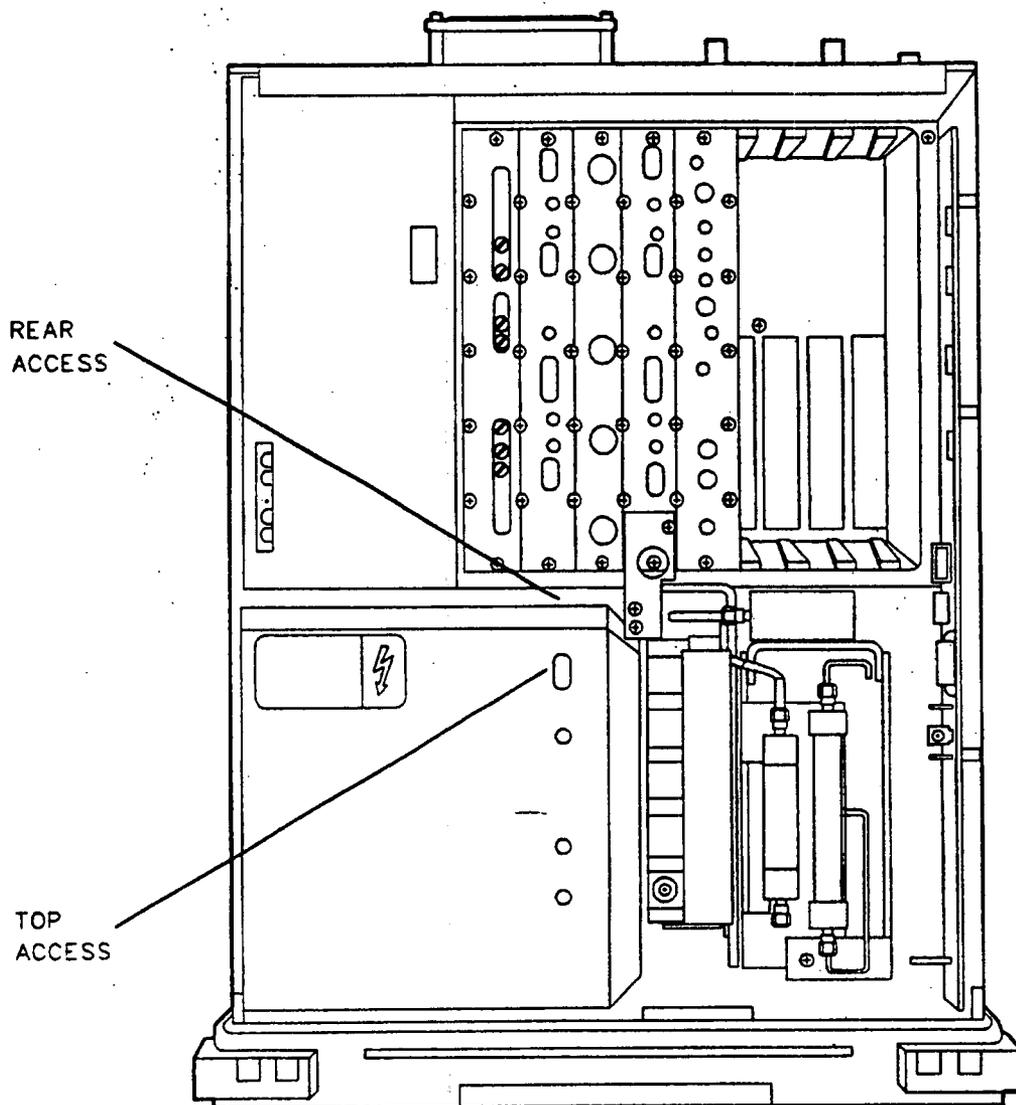
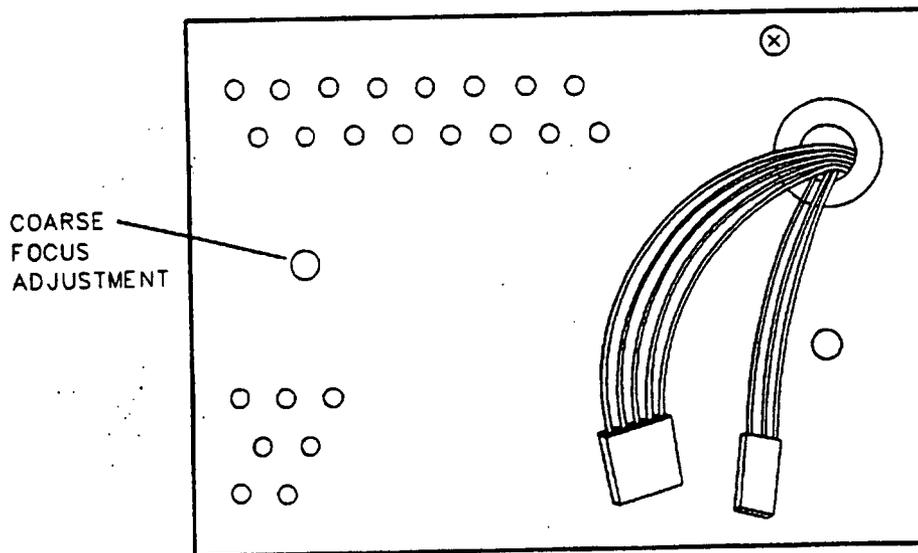

Figure 2-4. Coarse Focus Adjustment Location
Figure 2-5. Coarse Focus Adjustment Location (Rear View of Display Assembly)
1. Bend an adjustment tool at a 90° angle. Looking at the top of the spectrum analyzer, locate the coarse focus adjustment through the back access hole of the display assembly. Refer to Figure 2-4 and Figure 2-5. Engage the adjustment tool and rotate the adjustment in small increments until the desired focus is obtained.
2. Using a thin, narrow, insulated adjustment tool, approach the adjustment at a 90° angle through the oval access hole on the top of the display assembly. See Figure 2-4.